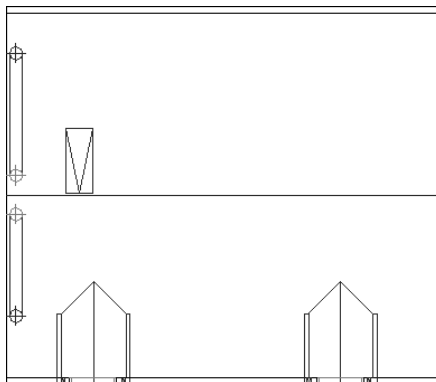

**Figure 10-26:** The longer garage.
5. Save your drawing. It should look like Figure 10-26.